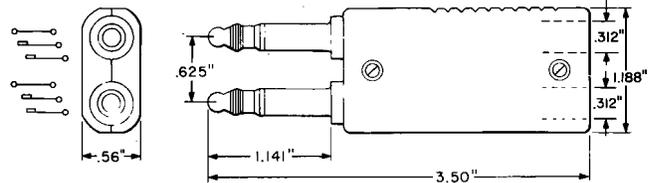

Fig. 22—474A Plug
**2.22 474A:** The 474A (Fig. 22) consists of a twin, 3-conductor plug and a shell of black insulating material. The 474A plug is generally connected to two, 3-conductor cords and is arranged to mate with the 238-, 239-, or similar-type jacks. The 474A plug is used on the D3 Channel Bank.